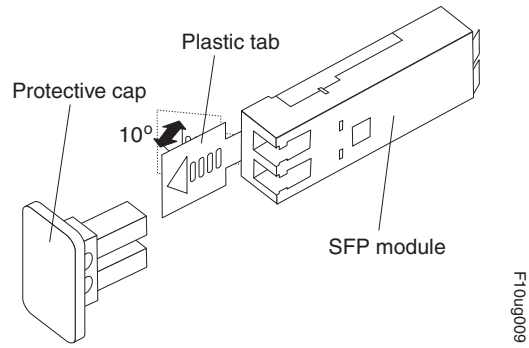

Figure 71. Unlocking the SFP module latch - plastic variety
- For SFP modules that contain plastic tabs, unlock the SFP module latch by pulling the plastic tab outward 10°, as shown in Figure 71 on page 105.